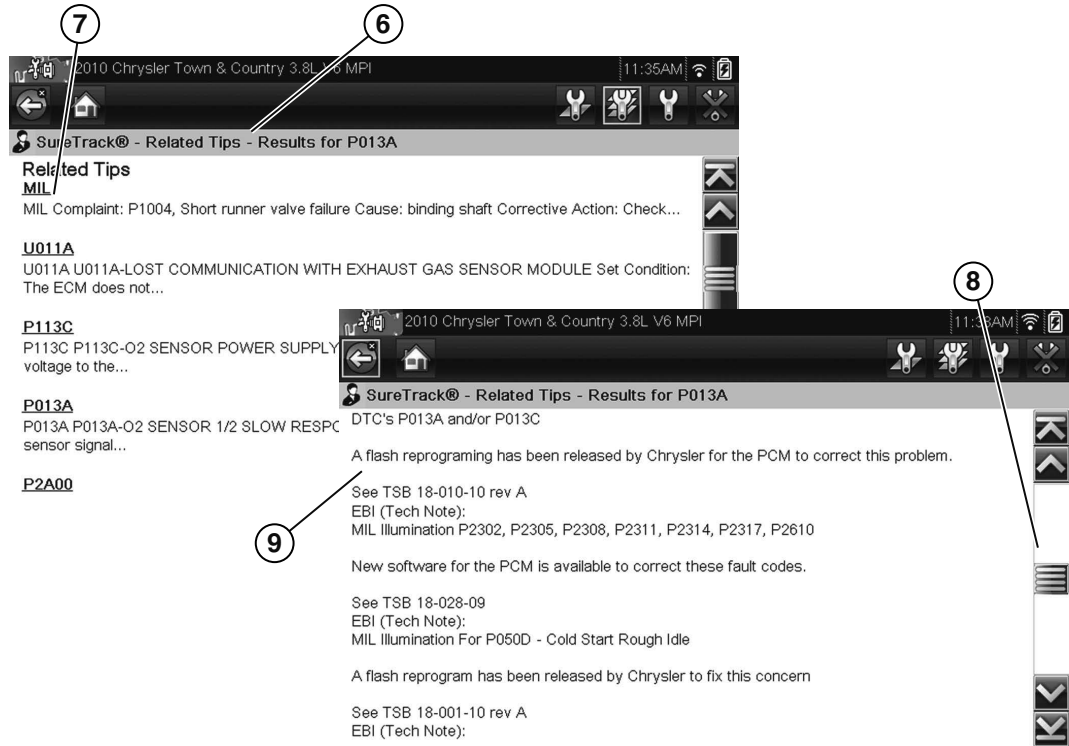

Figure 5
To demonstrate how to navigate SureTrack to find additional information, perform the following steps with the callout numbers in the images to navigate to the Related Tip reprogramming information shown in (Figure 5).
6. Related Tips are displayed (Figure 5 - (6)).
7. Select the **MIL** tip (Figure 5 - (7)).
8. Use the scroll bar to scroll down through the information (Figure 5 - (8)).
9. Specified information is displayed (Figure 5 - (9)).